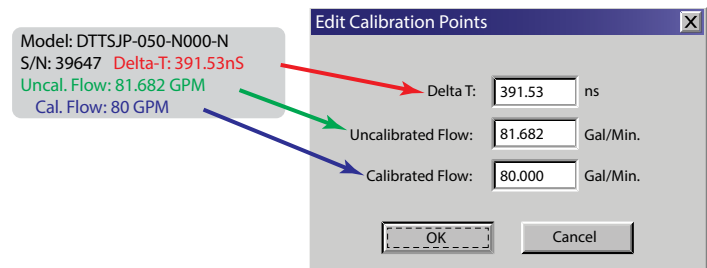

Figure 17: Edit calibration points
7. Enter Delta T, Un-calibrated Flow, and Calibrated Flow values from the DTTS/DTTC calibration label, then click **OK**. See *Figure 17*.